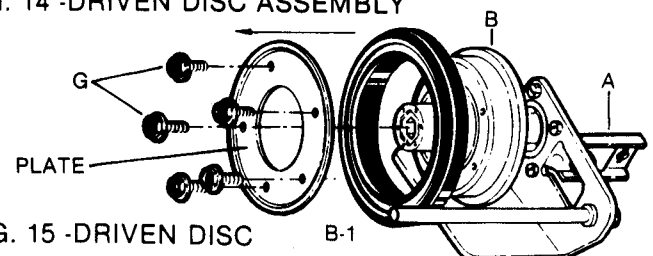

FIG. 15 - DRIVEN DISC
Remove the five machine screws (G) and plate securing the driven disc rubber ring (B-1) to the hub (B) and replace the ring as shown in FIG. 15. Reverse procedures for re-assembly and installation.
2. Re-adjust "Tracking", by imagining (or drawing) a reference line **across** drive disc center; loosen hex nut (W) securing thrust plate guide (X) to thrust plate (Y) at slot (Z).